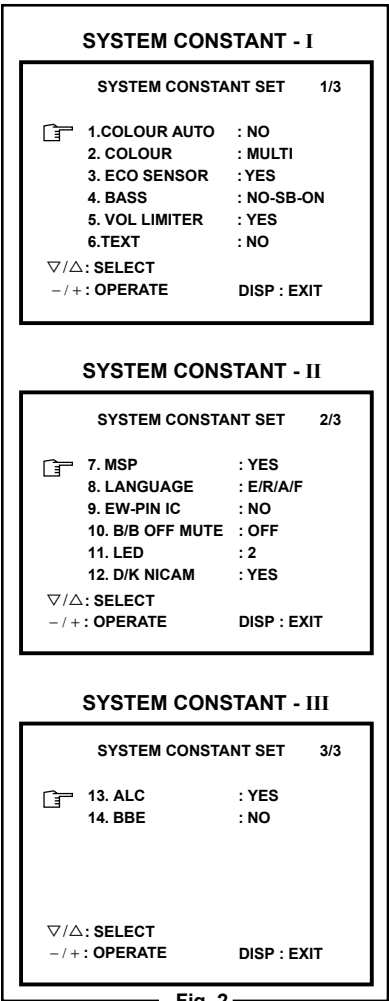

Fig. 2
- 2) In the SERVICE MENU, press the DISPLAY key and PICTURE MODE key simultaneously. Then, the SYSTEM CONSTANT SET screen will be displayed. (See Fig. 2.)
(5) Receive channel setting